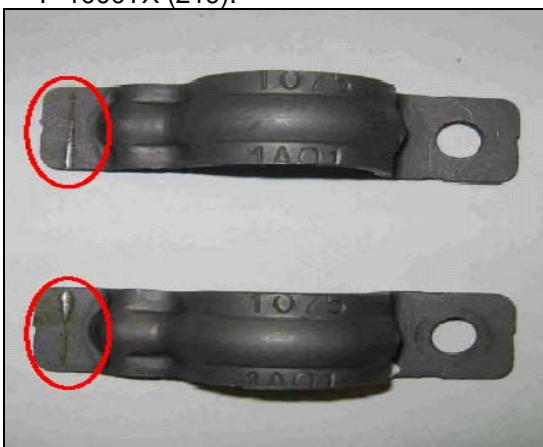

Figure 11
1. If burrs are visible (Figure 11, circles), proceed as follows.
2. Remove the seat, refer to WIS document AR91.10-P-1000P (203), AR91.10-P-1000T (211) or AR91.10-P-1000TX (219).